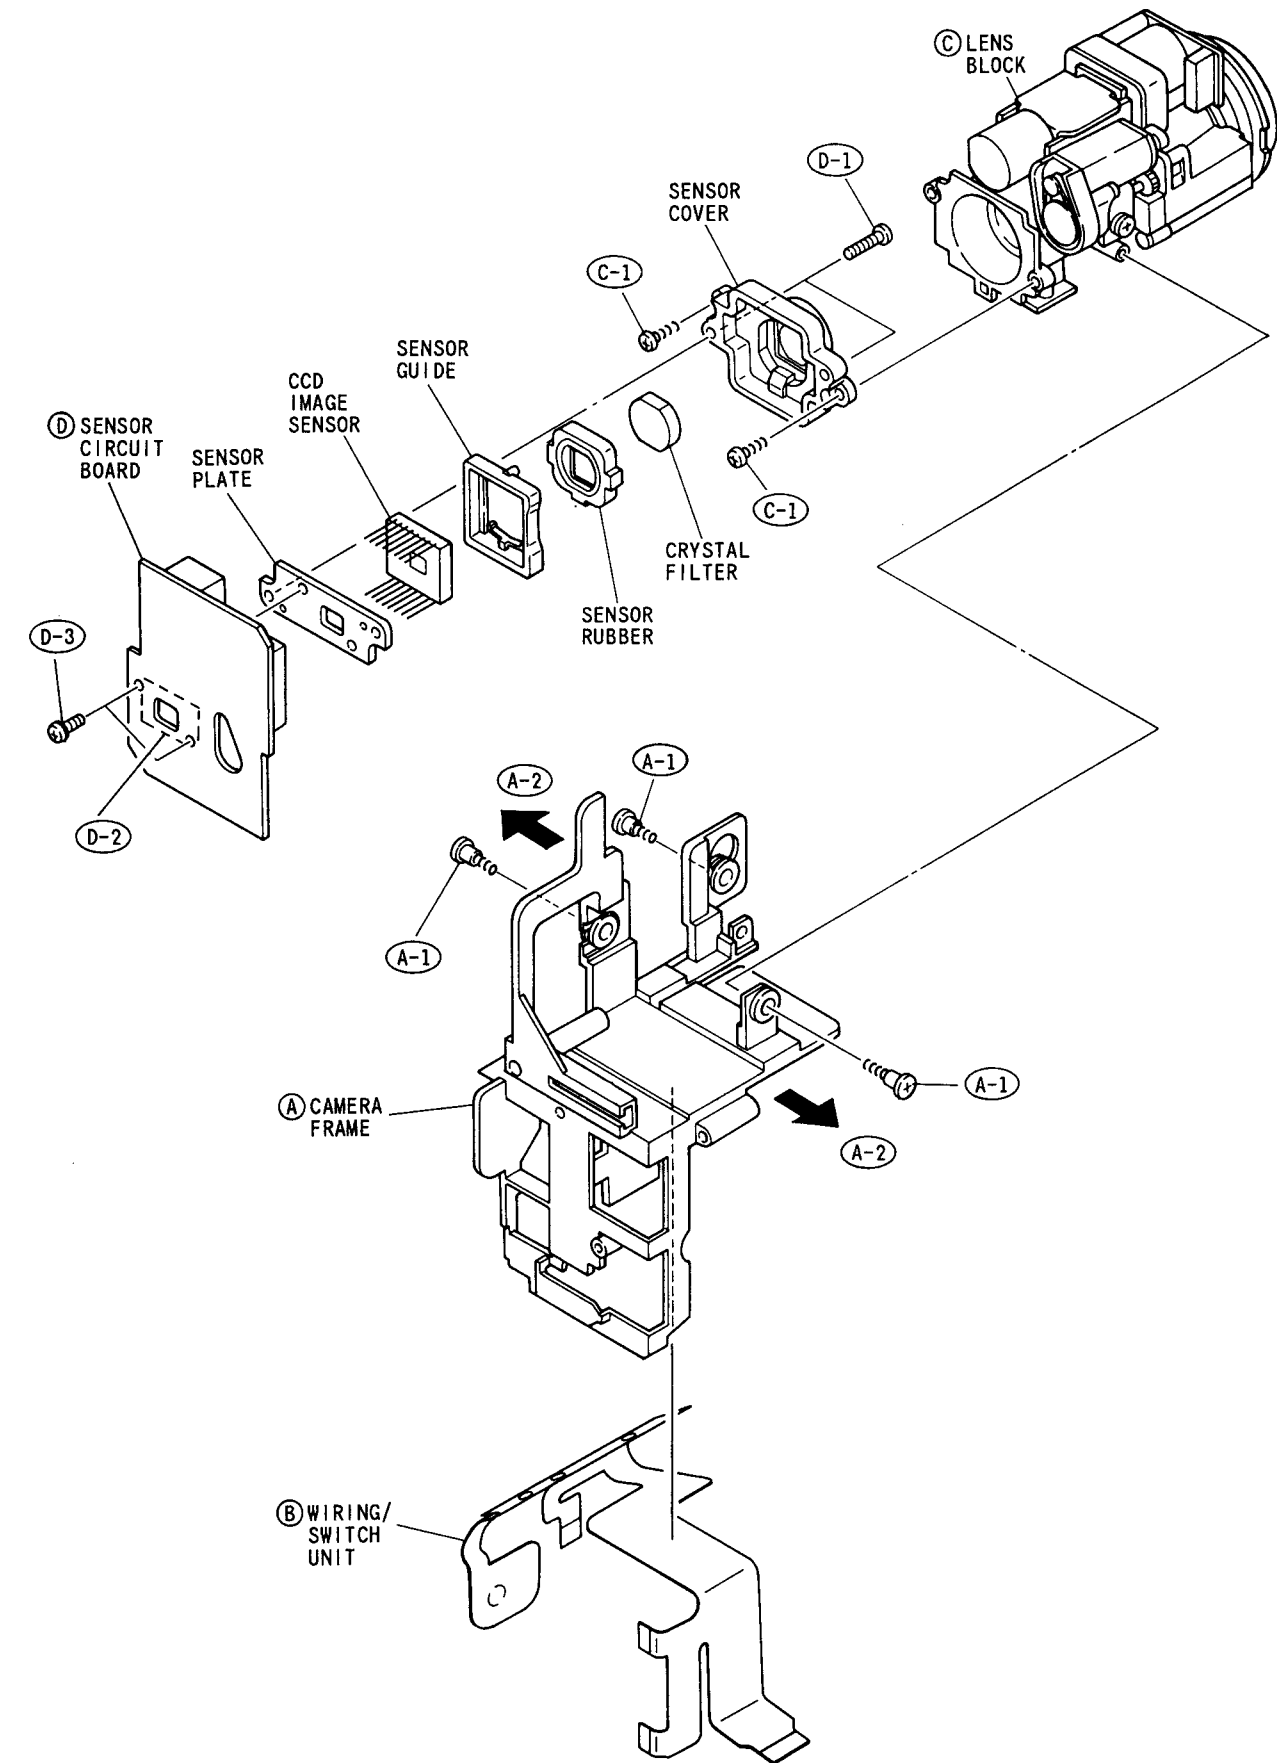

Fig. 3-6
A. Camera Frame (Fig. 3-6)
- 1) Remove three (3) screws.
B. Wiring/Switch Unit (Fig. 3-6)
C. Lens Block (Fig. 3-6)
- 1) Remove two (2) screws.
D. Sensor Circuit Board (Fig. 3-6)